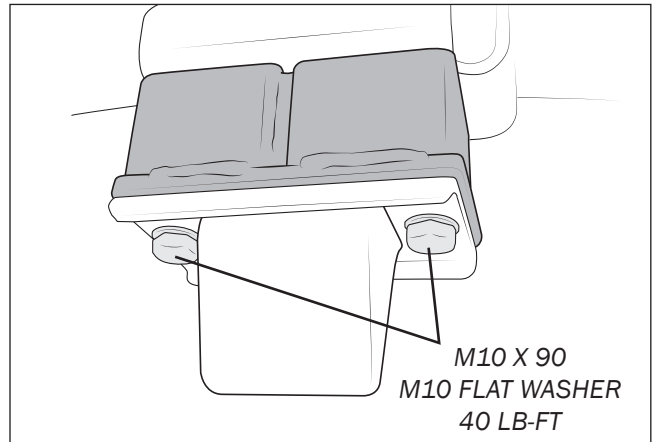

Figure 13
4. Install the bump stop spacers and factory bump stops with supplied hardware and torque to **40 lb-ft** (fig. 13).